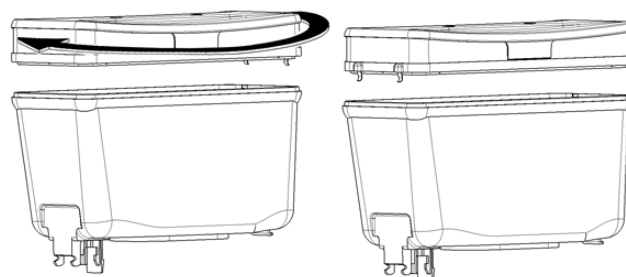

figure 1
**9** On machine equipped with lighted top cover turn the cover for 180 degrees to switch light off. (see figure 1)